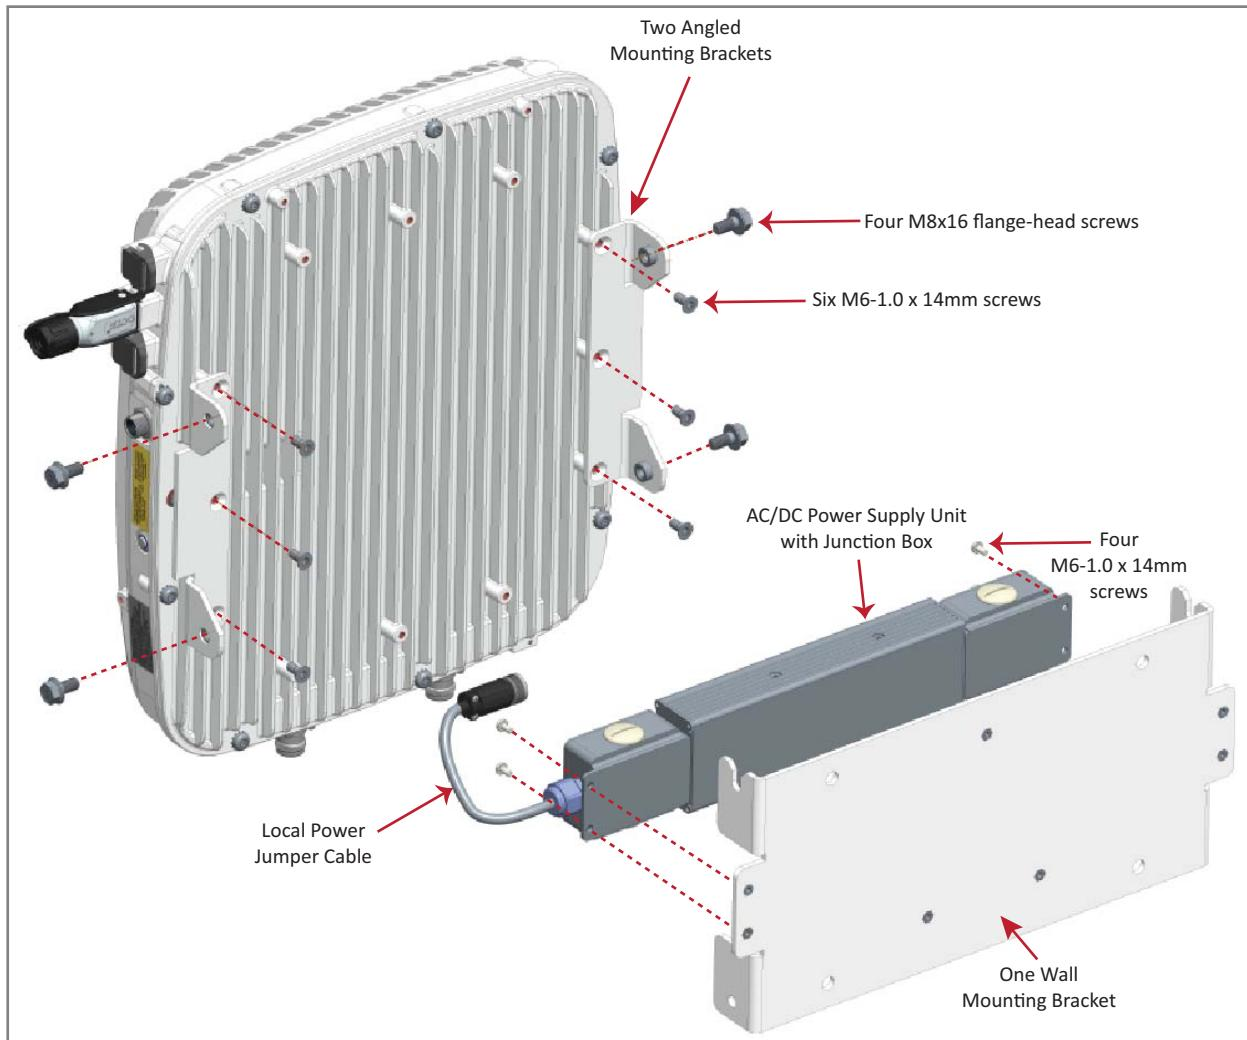

Figure 12. CAP L (No Fan Kit) with AC/DC Power Supply Kit (PN 7775087-xx) and CAP L Mounting Bracket Kit (7774354-xx)
- 5** Assemble and mount the AC/DC Power Supply Kit and the CAP L, as described below and as shown in Figure 12 (CAP L without Fan Kit) and Figure 13 on page 34 (CAP L with Fan Kit). The Local Power Jumper Cable Assembly will be connected to the AC/DC Power Supply Junction Box at the factory.